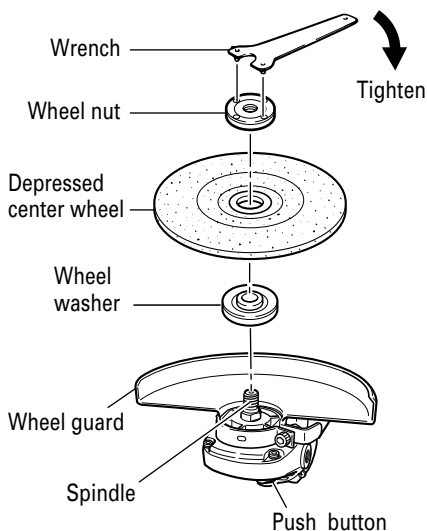

Fig. 5
10. Check the push button. Make sure that the push button is disengaged by pushing push button two or three times before turning on the grinder. (Fig. 5)
- (1) Turn the disc grinder upsidedown so that the spindle is facing upward.
- (2) Align the oval-shaped indentation of the wheel washer with the notched part of the spindle, then attach them.
- (3) Fit the protuberance of the depressed center wheel onto the wheel washer.
- (4) Screw the wheel nut onto the spindle.
- (5) While pushing the push button with one hand, lock the spindle by turning the depressed center wheel slowly with the other hand. Tighten the wheel nut by using the supplied wrench as shown in Fig. 5.